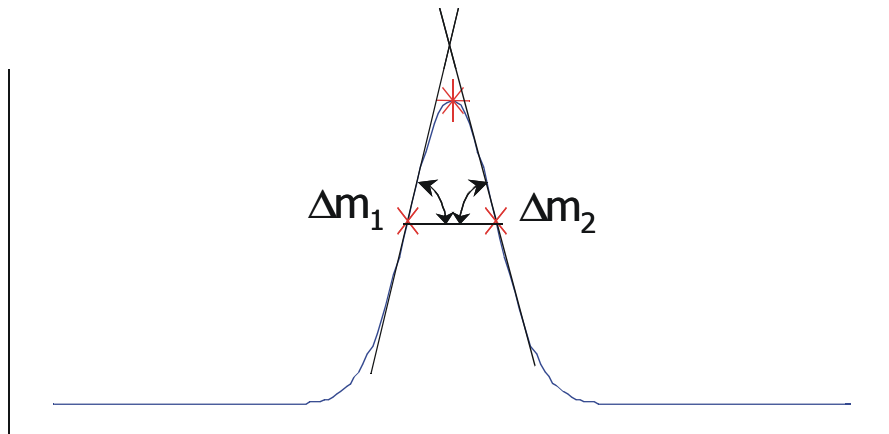

Figure 2-8 Computing Slope Differences
3. Computes two slope differences,  $\Delta m_1$  and  $\Delta m_2$  (Figure 2-8):